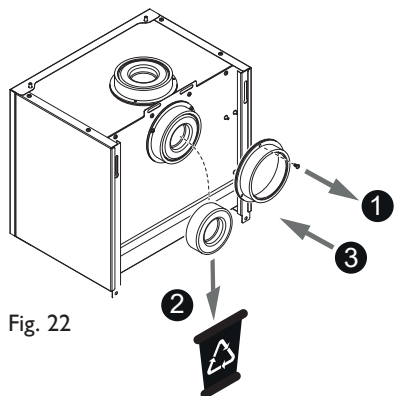

Fig. 22
6. Undo the screws securing the rear flue adaptor and remove the adaptor. Retain the screws & adaptor for reuse. Extract the blanking cap and discard, recycling where possible. Refit the adaptor and secure with the screws previously removed (Fig. 22).